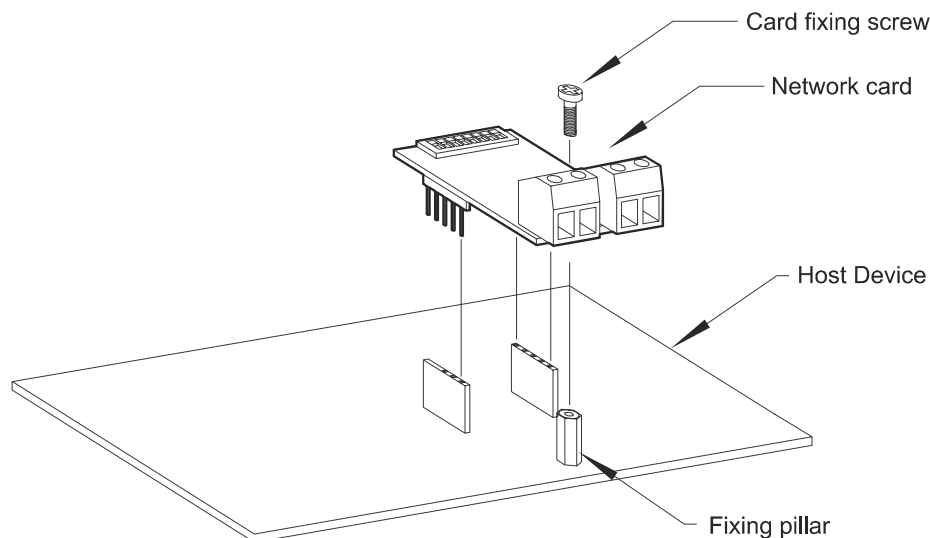

Figure 4 - Fitting a Network Card
3. Fit network cards to the PCB as required, using Figure 4 as a guide.